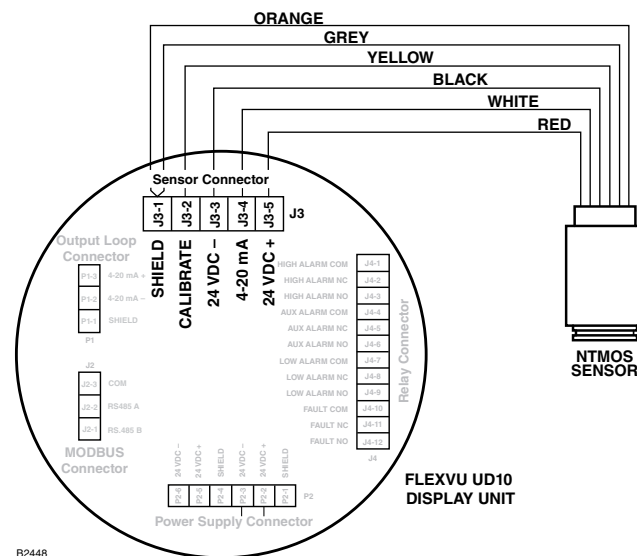

Figure 1—NTMOS Sensor Directly Wired to FlexVu Model UD10
- Terminate all sensor wiring at the proper terminals and verify that bonding between sensor housing-to-ground terminal is less than 0.1 ohm. Refer to Table 2 and Figures 1 to 4 for wiring details: